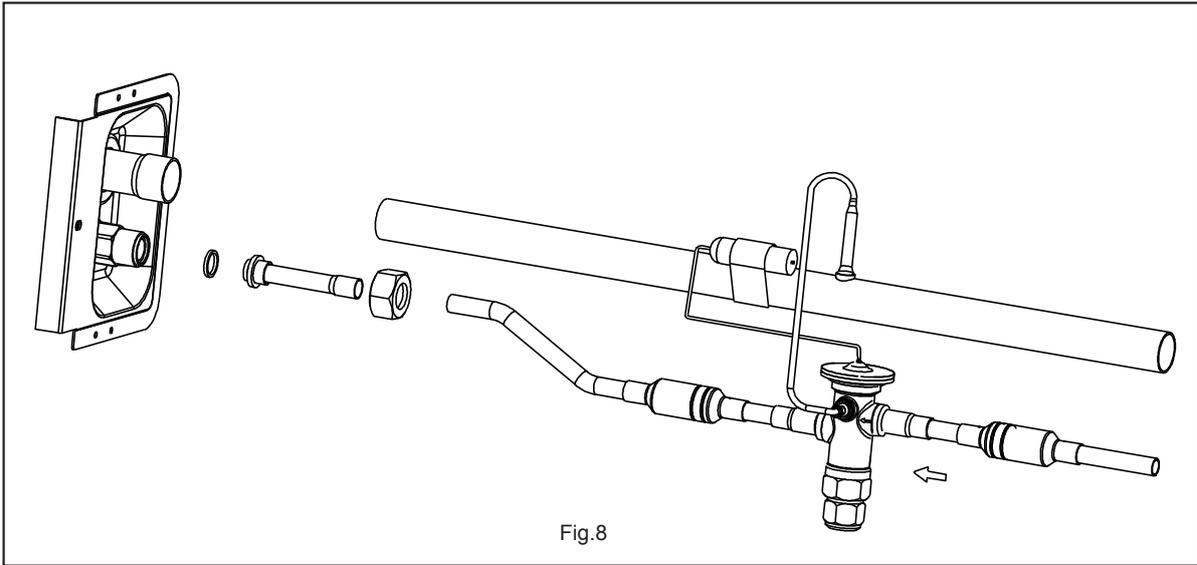

Fig.8
3. Install the sealing washers, TXV and flange connection tube as shown in Fig.8.